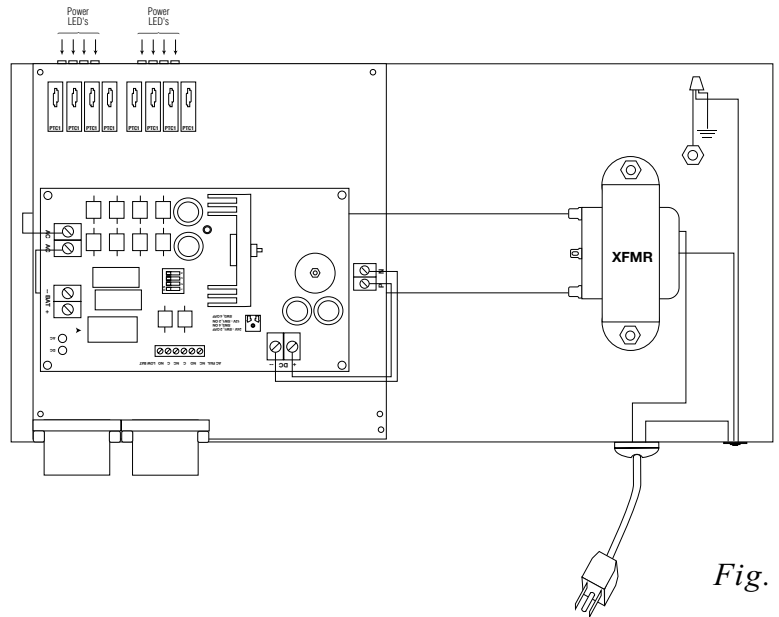

Fig. 1
Connect AC (220VAC 50/60 Hz) to the black and white flying leads of the transformer (Fig. 1).
5. Connect each DC CCTV cameras to the terminal pairs marked [1P-1N through 8P-8N] on the back of the unit (Fig. 1), carefully observing correct polarity.